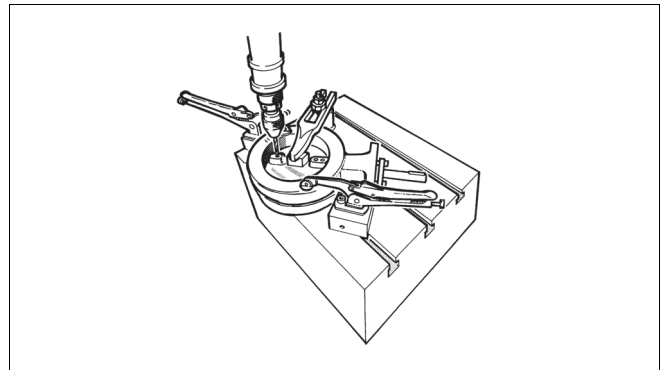

Fig. 15 Drilling the pins
- Remove the clamp ring (2) and seat ring (4) according to section 5.5.
- Set the valve horizontally on a sturdy surface so that the flat side of the disc lays against the surface, see Fig. 15.